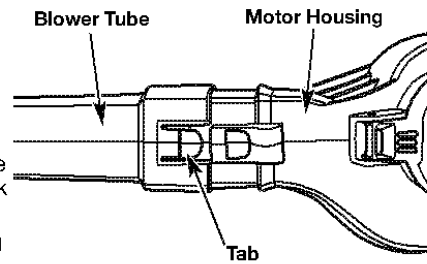

Fig. 1
1. Slide the widest end of the blower tube over the front opening on the motor housing until the tab on the blower tube is inserted into the opening on the motor housing and locks into place (Fig. 1).